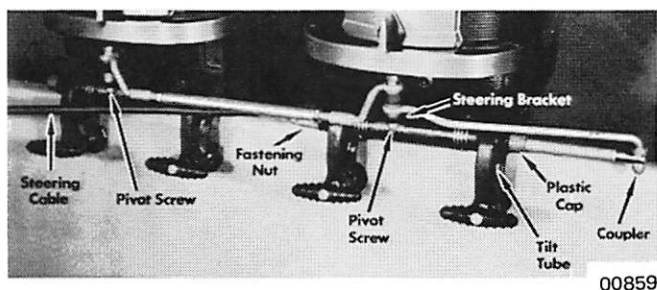

Figure 4. Attachment Kit Installed, Merc 500 (1966 and Newer Models)
1. Ride-Guide cable may be routed on either the right or left side of boat. It is, however, necessary to install cable on the far engine; i.e., cable is installed on left engine if cable is routed on right side of boat (Figure 4), and cable is installed on right engine if cable is routed on left side of boat.
2. Lubricate inside of engine tilt tube with New Multipurpose Lubricant (C-92-49588). (Figure 4)
3. Insert cable end thru tilt tube and secure with large hand-type fastening nut. (Figure 4)